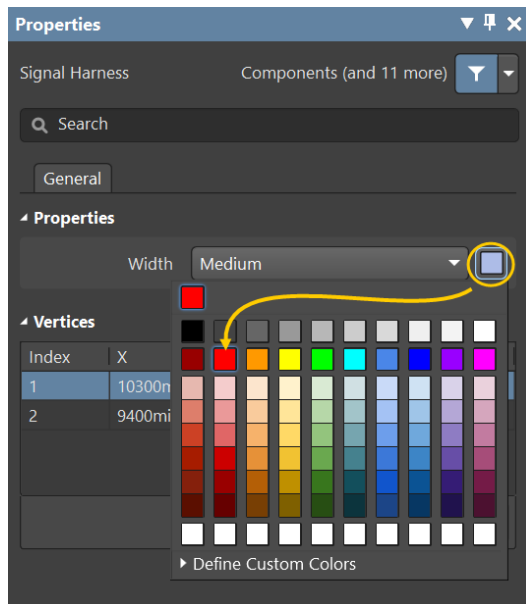

Figure 24. New Harness Color
55. Change the color to red as shown in Figure 24.